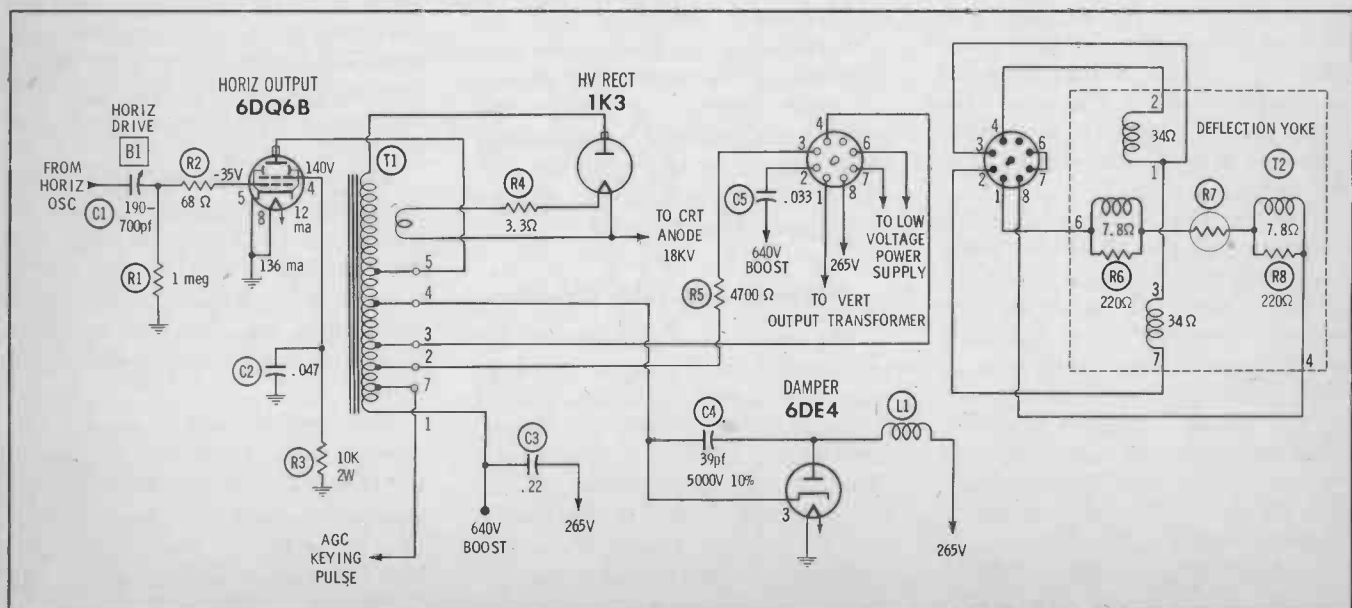

Fig. 1. Typical horizontal output circuit—from grid of output tube to anode of picture tube.
The basic configuration of the horizontal sweep output circuitry has been fairly well standardized throughout the past ten years; nearly all models of receivers have included an autotransformer-type circuit generally similar to that shown in Fig. 1. This layout is notably simpler than those used in many sets
Scanning left half of screen: The damper tube conducts, dissipating the energy stored in the flyback. Its conduction causes the boost capacitor (C3 in Fig. 1) to be charged so that the plate connected to the fly-
- (c) Low plate current in the horizontal output stage, even though the tube is good and the drive signal is normal. An increase in value of a screen dropping resistor can produce this effect by decreasing both the screen voltage and the screen current. (Note that a screen-voltage measurement alone is not sufficient to identify this trouble; either the screen current or the resistance must also be checked.) A leaky screen-bypass capacitor (C2 in Fig. 1) can produce similar symptoms, but in this case the current through the screen dropping resistor (R3 in Fig. 1) will be greater than the current actually passing through the tube. (Moral: check the bypass capacitor before attempting to measure current.) If the output stage includes a cathode resistor, a loss of raster might be traced to this component being burned open or greatly increased in value.
- (d) A defect in the boost capacitor (C3 in Fig. 1) which prevents the boost voltage from rising very far above the B+ level. This fault could be either leakage, an open connection, or a significant decrease in capacitance.
- (e) Failure of accessory components such as those in the damping network of the yoke. (To find all of these components, be sure to check inside the yoke cover, as well as in the HV cage.) This type of fault often causes a drastic increase in local RF currents within the yoke circuit — enough to burn out a resistor such as R5 in Fig. 1 — although no significant increase may be noted in the output-tube or damper current.